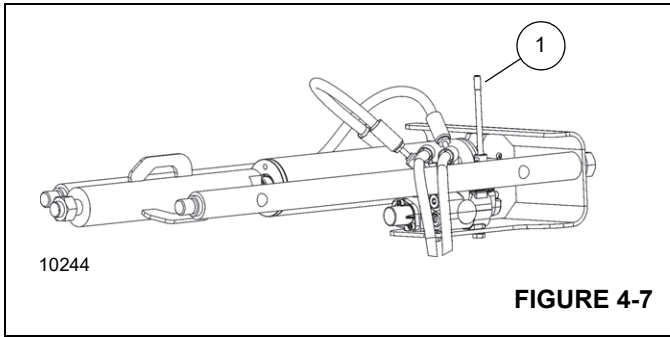

FIGURE 4-7
- 21. For the right side pin, move the control handle (1, Figure 4-7) on the removal tool to retract the pin.
- 22. For the left (cab) side pin, move the control hand (1) on the removal tool to retract the pin.
- c. For the right side pin, move the control handle (1, Figure 4-7) on the removal tool to extend the pivot pin.
- d. For the left (cab) side pin, move the control hand (1) on the removal tool to extend the pivot pin.